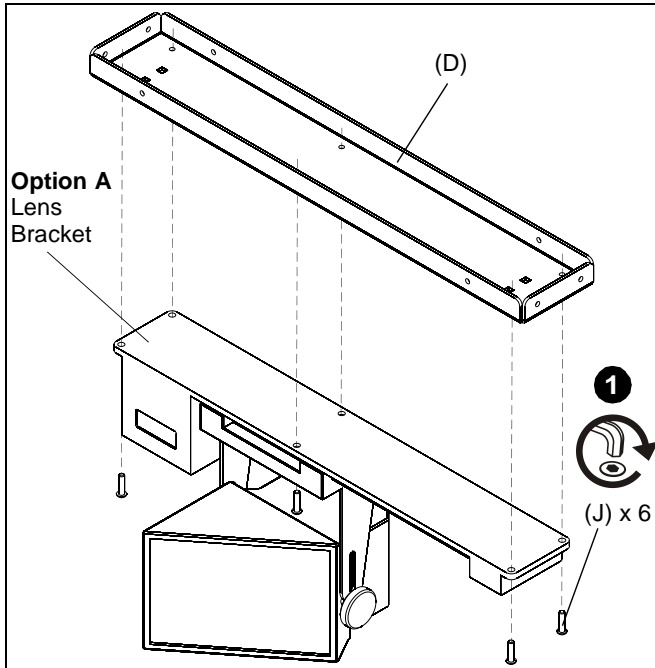

Figure 1
1. Attach lens bracket to bottom front plate (D) using six 1/4-20 x 1/2" button head cap screws (J). (See Figure 1) Proceed to **Attaching Lens Support**.